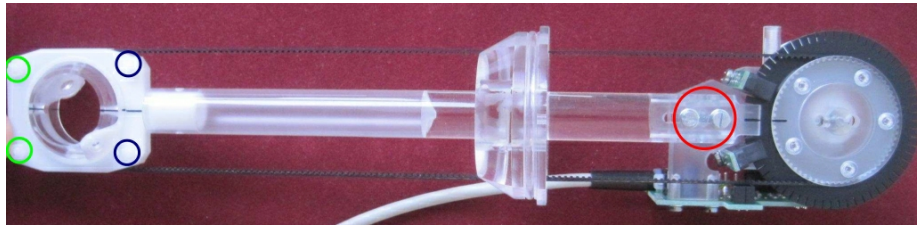
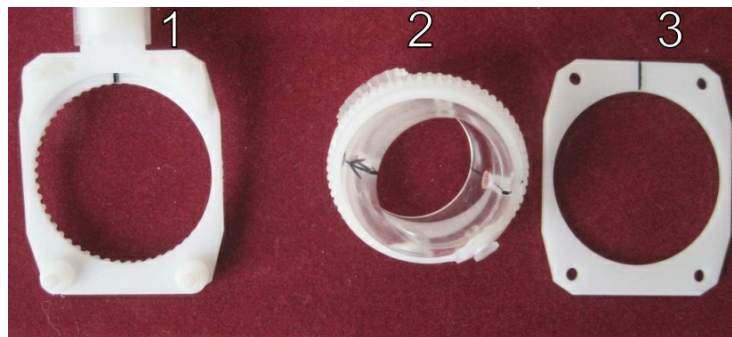
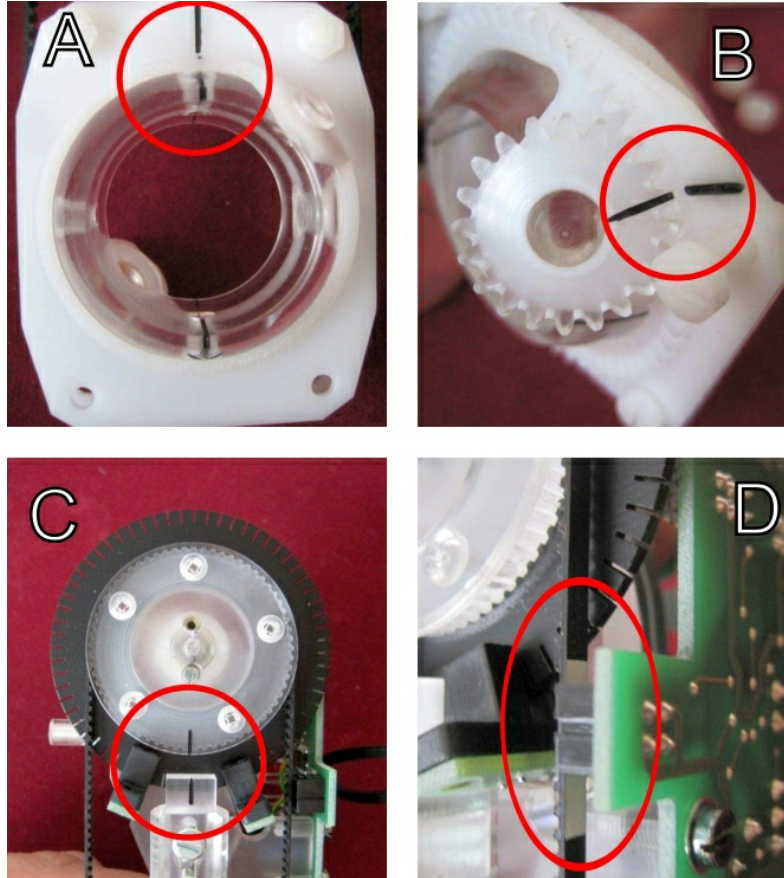

Figure 10: Position of the screws on rotator
Figure 12: Dismantled rotator
Figure 13: Aligning marks on rotator and white mark on belt
3. Loose two metal screws (just a little bit, half-turn is enough) marked by big red circle on Fig. 10, but do not unscrew them. Unscrew two plastic screws marked by the green circles on Fig. 10.
6. Unscrew two plastic screws marked by the blue circles on Fig. 10 and dismantle the bottom part of rotator as seen on Fig. 12.
8. Insert the rotator shell (No.2 on Fig.12) into the its holder (No.1 on Fig.12). Make sure that the marks shown on Fig.13 A and B are simultaneously aligned as on the picture. Then cover it with rectangular plate (No.3 on Fig.12) and carefully screw two plastic screws marked on Fig.10 by blue circles.
9. Put on the driving belt and make sure that all the marks shown on Fig.13 A, B, C and D are simultaneously aligned as on picture.
10. Gently screw two plastic screws marked on Fig.10 by green circles. Do not forget to use pads to keep entire system in correct position.
11. Apply some tension on belt and tighten the metal screws marked on Fig.10 by red circle. Do not put on the top cover of rotator, yet.
13. Open the *Auxiliary commands* (menu *Execute/Auxiliary commands*). Click on the *Initial position* button, wait until this procedure is finished and check the position of the marks as shown on Fig. 13 A, B, C and D.